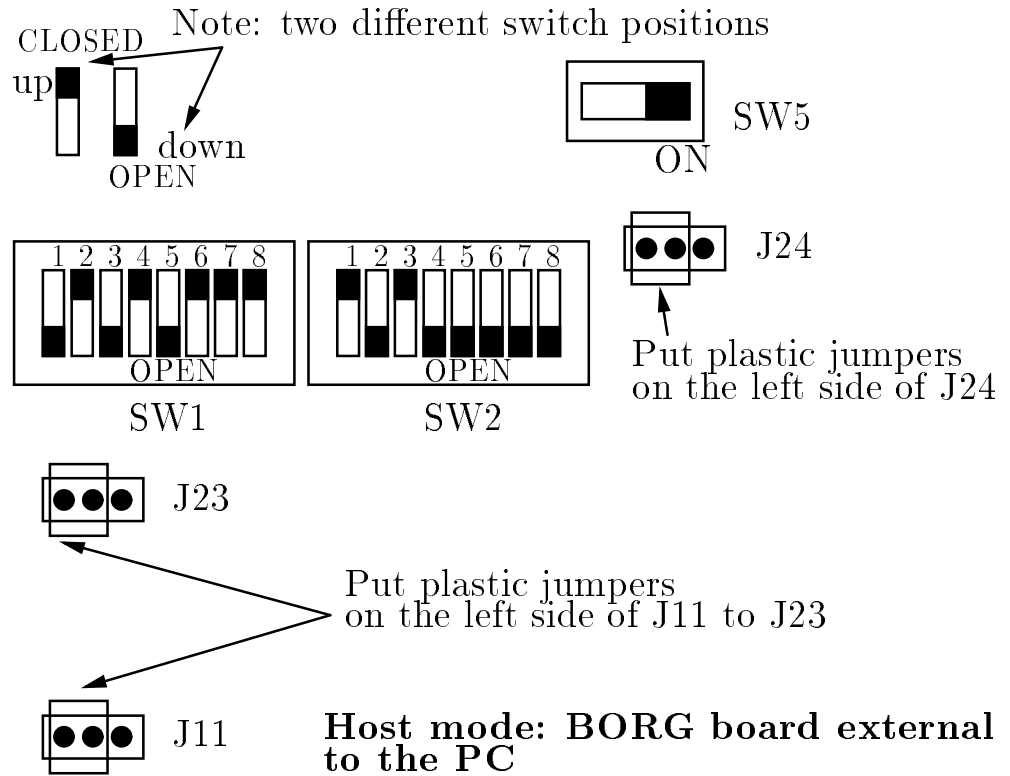

Figure 2.3: Setting for testing BORG board (host mode) with port address 0x30X and memory based address 0xd0000h.
2. Set the dip switches SW1 and SW2 on the BORG board according to Fig. 2.3.
3. Place the plastic jumpers at locations J11-J23 and J24 on the two left pins (the two pins closest to the proto-area) as in Fig. 2.3.